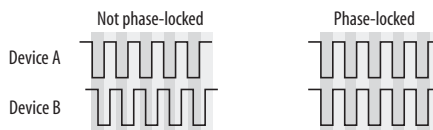

Figure 4-15: When transferring audio, two devices must have phase-locked audio clocks to prevent clicks, pops or other artifacts.
- Synchronizing the Traveler-mk3 with other digital audio devices so that their digital audio clocks are *phase-locked* (as shown in Figure 4-15)